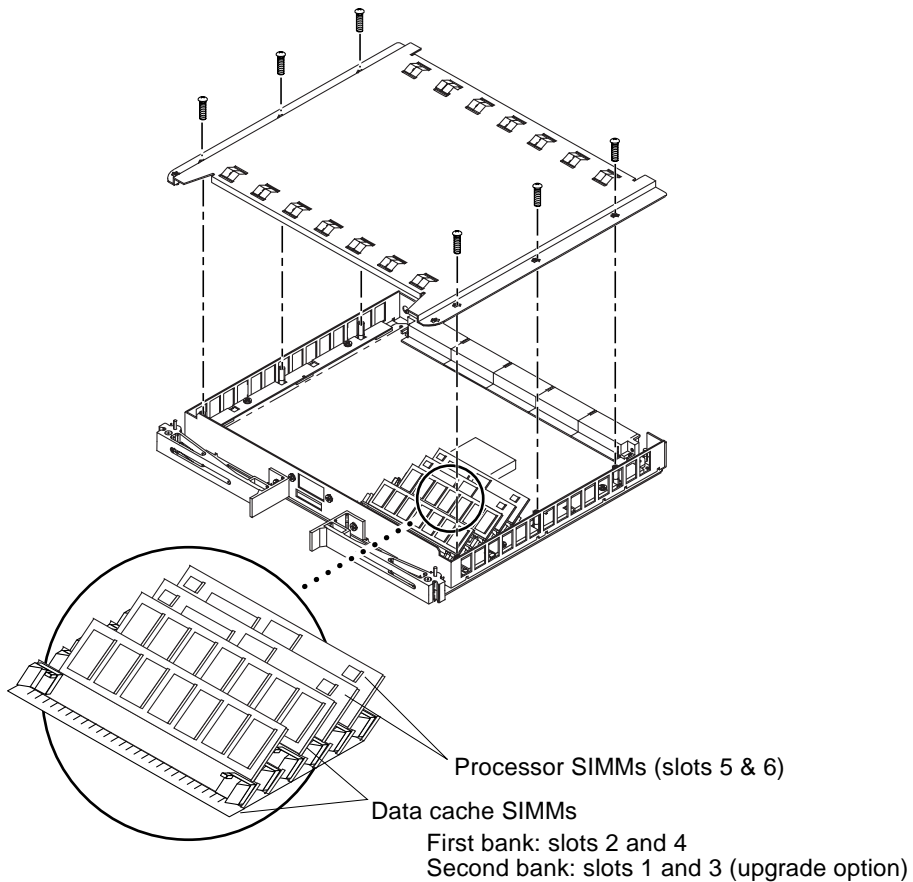

FIGURE 6-3 Opening the Controller Canister
FIGURE 6-3 shows processor SIMMs and data cache SIMM locations.
4. Remove the six screws from the top of the controller canister (FIGURE 6-3).
- 5. Insert the new SIMM into the controller board according to the callouts in FIGURE 6-3.**
- 6. Replace the top plate on the controller canister and secure it with the six screws (reverse FIGURE 6-3).**